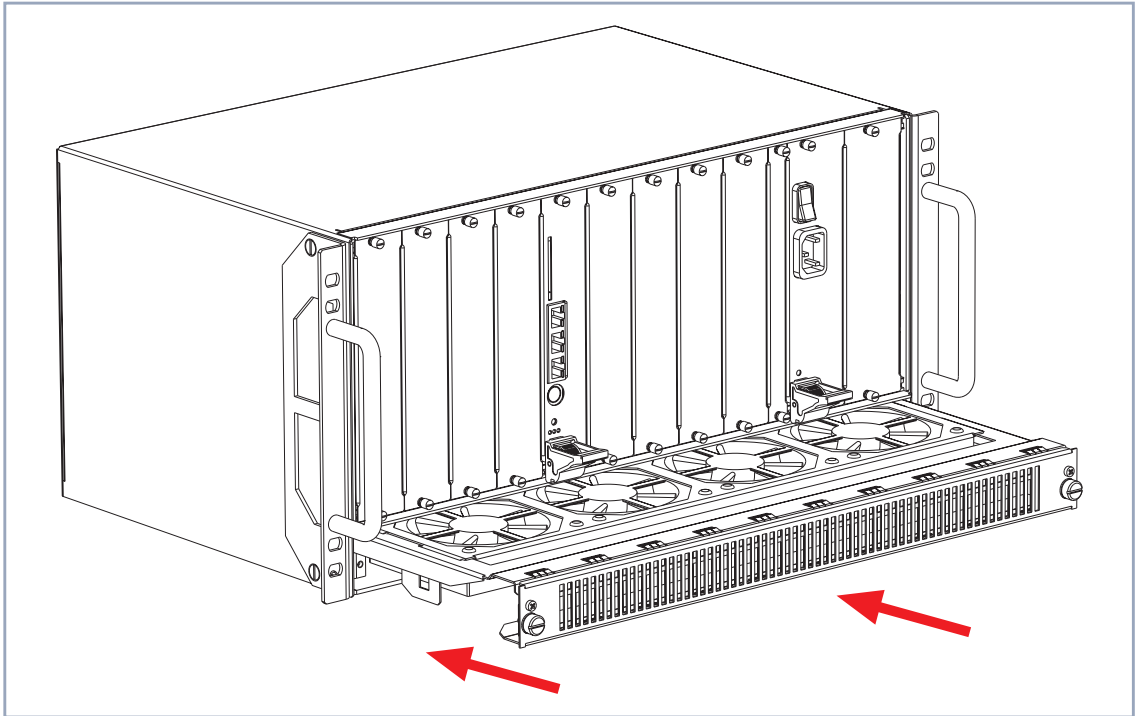

Figure 4-13: Inserting the fan cassette into the fan slot
- Insert the fan cassette into the fan slot as shown in figure 4-13, page 51.